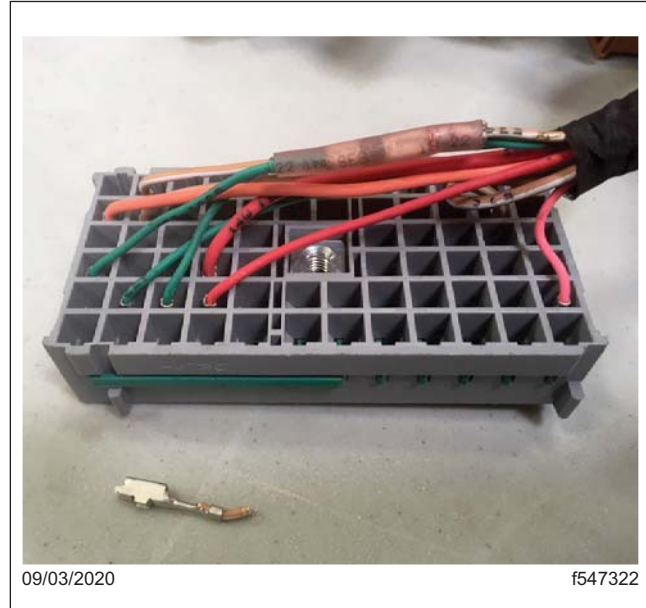

Fig. 9, Completed Splice
15.6 Insert the terminal into cavity D12. See Fig. 9.